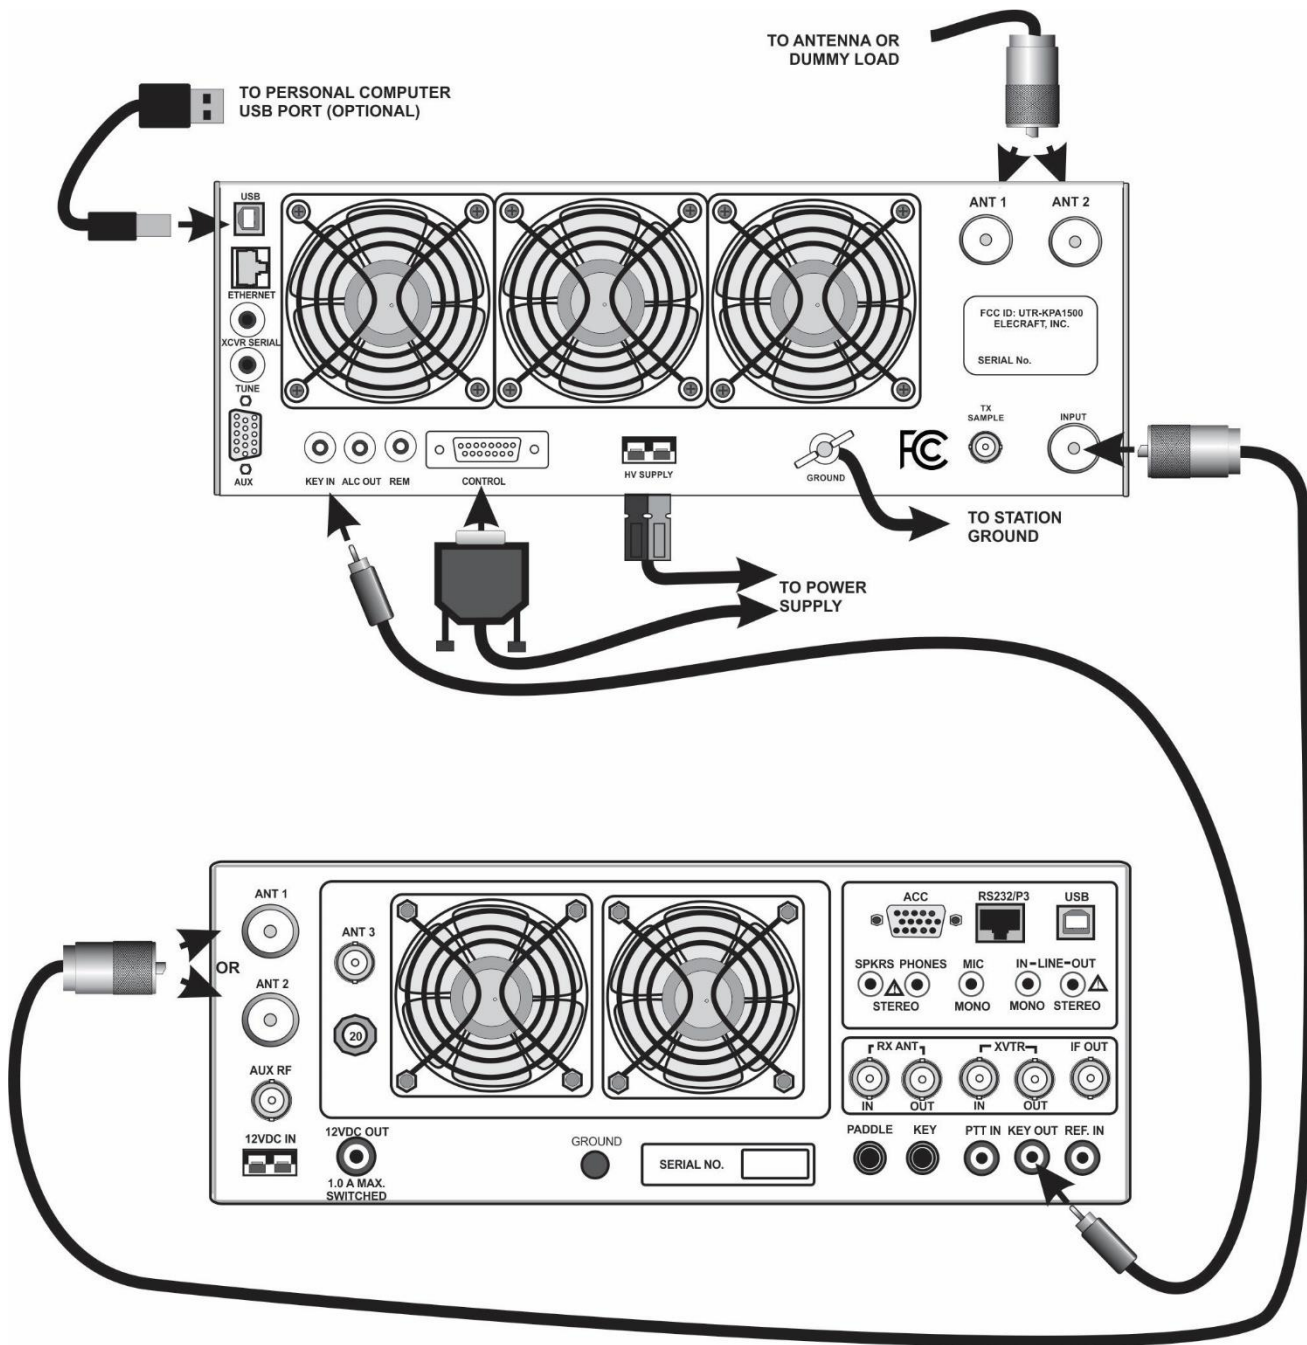

Figure 3. Basic Cabling Diagram for Any Transceiver.
- ⚠ The KPA1500 may be used with the Elecraft K3S, **K3**, K2 or any HF/6 meter transmitter and that has a keying output meeting the requirements shown under note 4 below. Interconnections with the transceiver are shown in Figure 3. The driving transceiver must provide at least 50 watts of RF drive for full output and the output power must be adjustable as described under *Transmitting* on page 15.